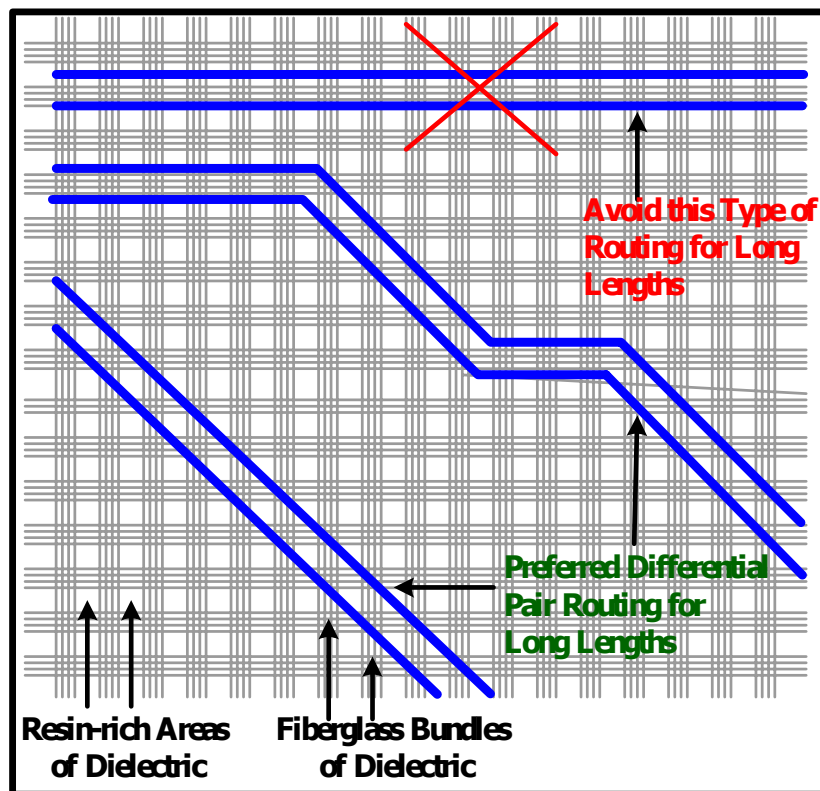

Figure 1. Long Trace Layout for RSGMII
- Trace routes over long distances should be routed at an off-angle to the X-Y axis of a PCB layer to distribute the effects of fiberglass bundle weaves and resin-rich areas of the dielectric. See Figure 1 for an illustration of diagonal routing.